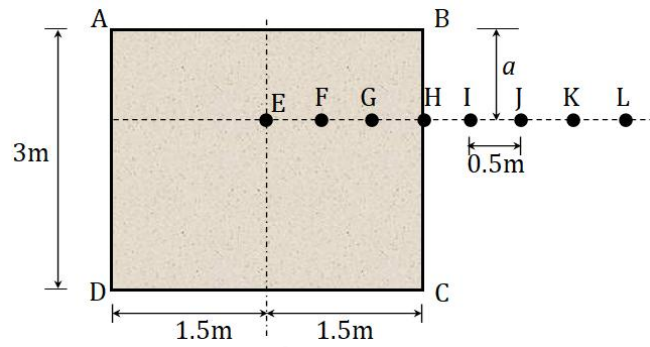

Figure 4
8. (a) A $3 \text{ m} \times 3 \text{ m}$ square footing (Fig.4) carries a uniform pressure of 150 kPa. Determine the vertical stresses at points E and I at depth of 2 m below the plane of loaded area. [Given, $a = 1.0 \text{ m}$]. [(C06) (Evaluate/HOCQ)]